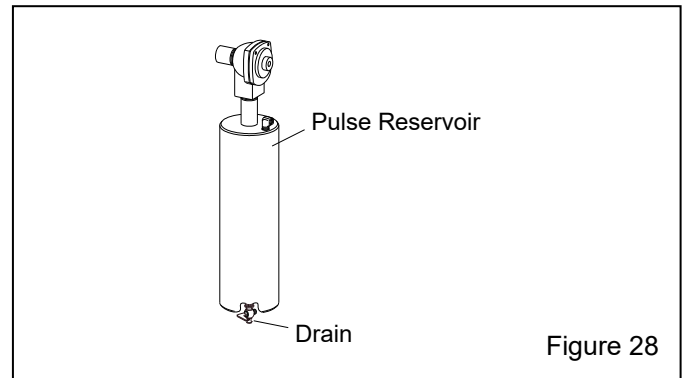

Figure 28
**6.2.4 Drain pulse reservoirs:** Open the petcock to drain the pulse reservoir at the end of each shift. Refer to Figure 28.